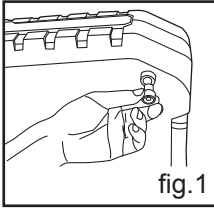

fig.1
INSTALLATION OF RUBBER FEET (Fig. 1)
- Insert the rubber feet into the 4 holes in the base (fig. 1).